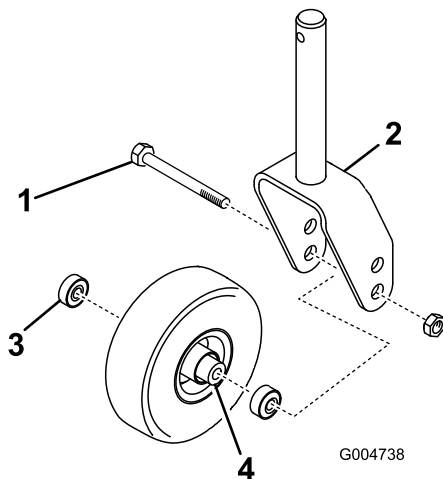
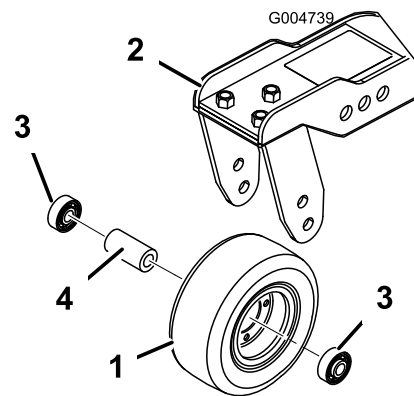

Figure 82
Figure 83
1. Remove the locknut from the bolt holding the caster-wheel assembly between the caster fork (Figure 82) or the caster-pivot arm (Figure 83).
2. Remove the bearing from the wheel hub and allow the bearing spacer to fall out (Figure 82 and Figure 83).